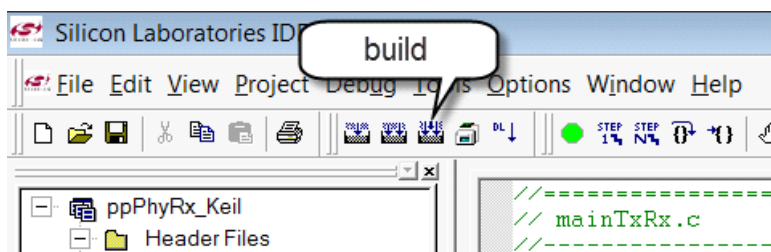

Figure 14. Build and Download Project
5. Build and download the project as shown in Figure 14.